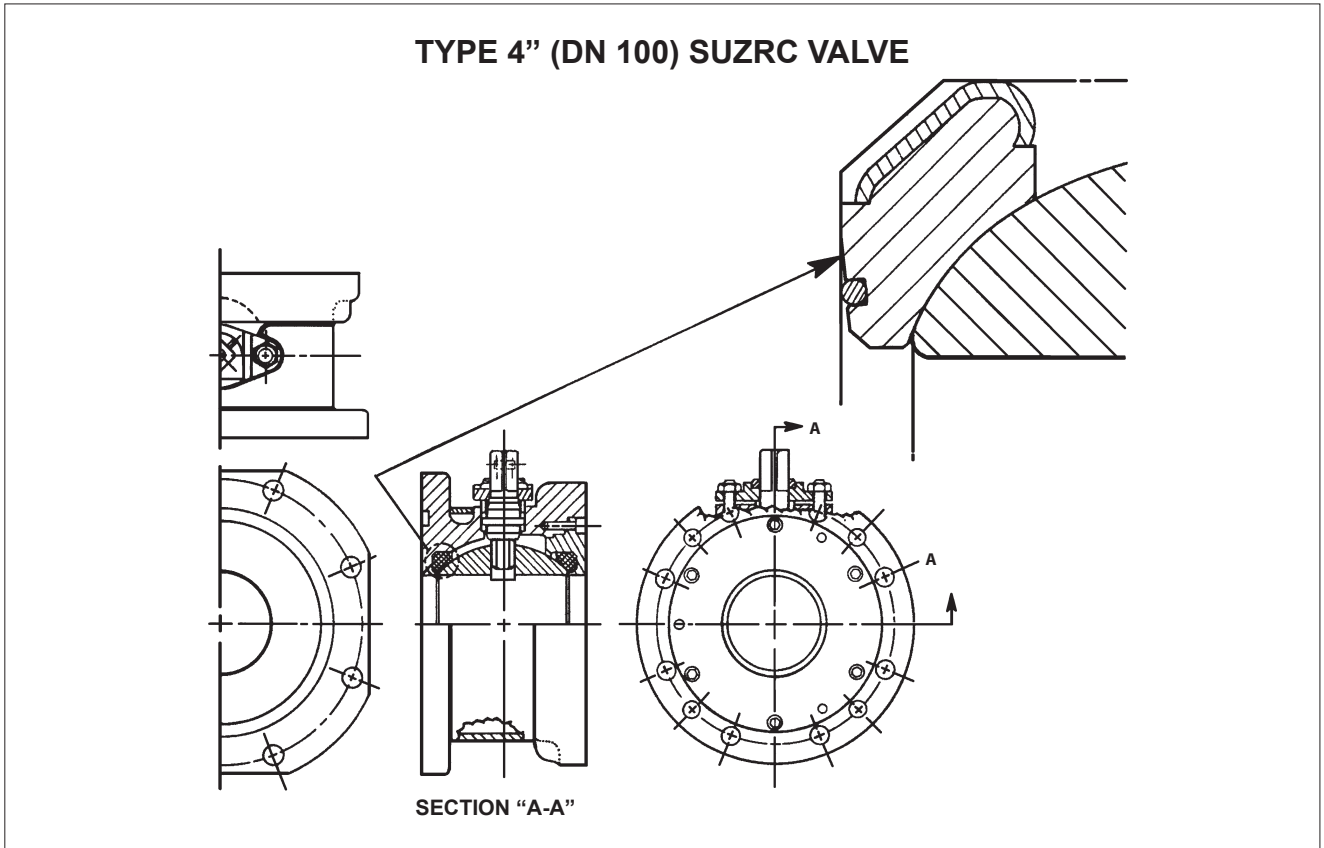
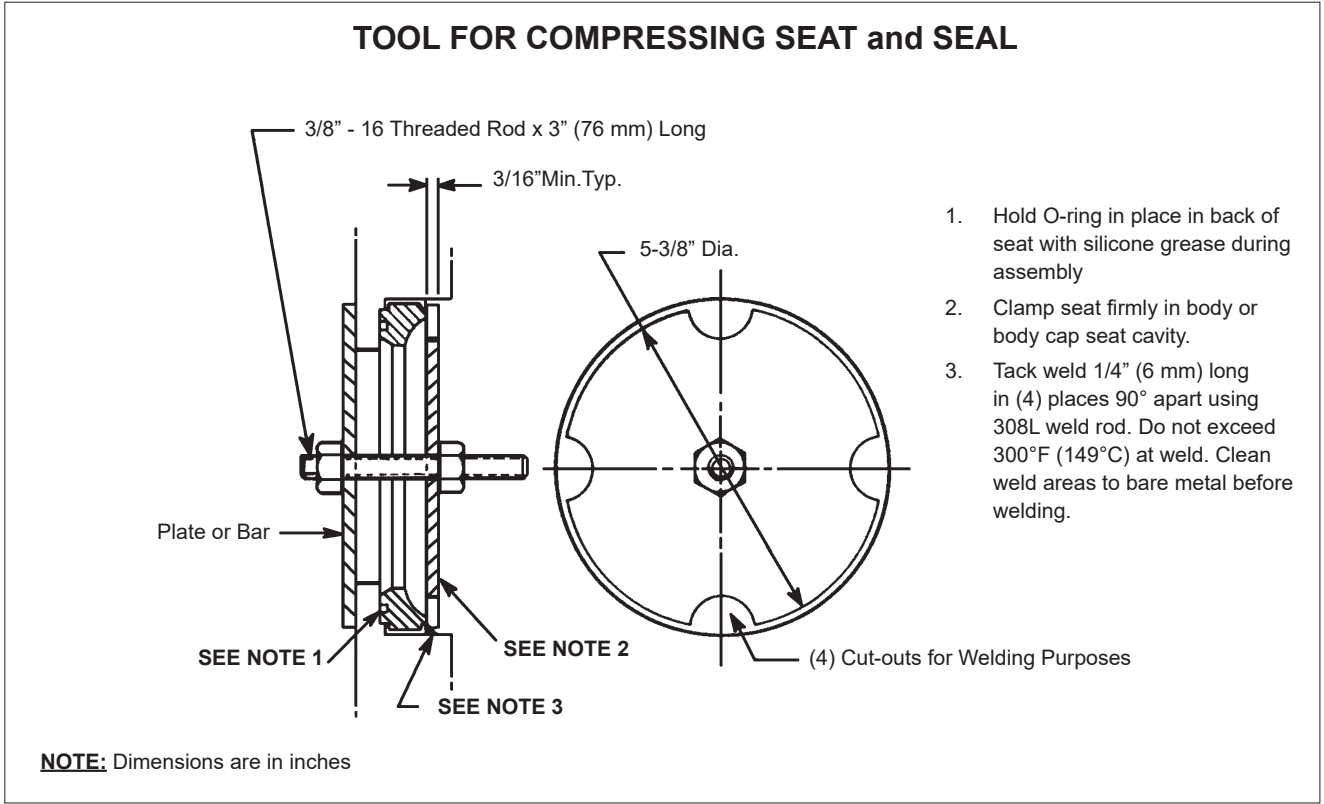
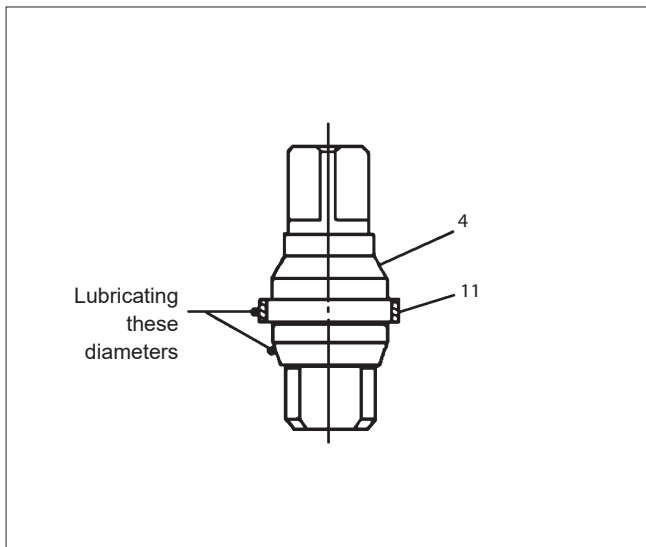
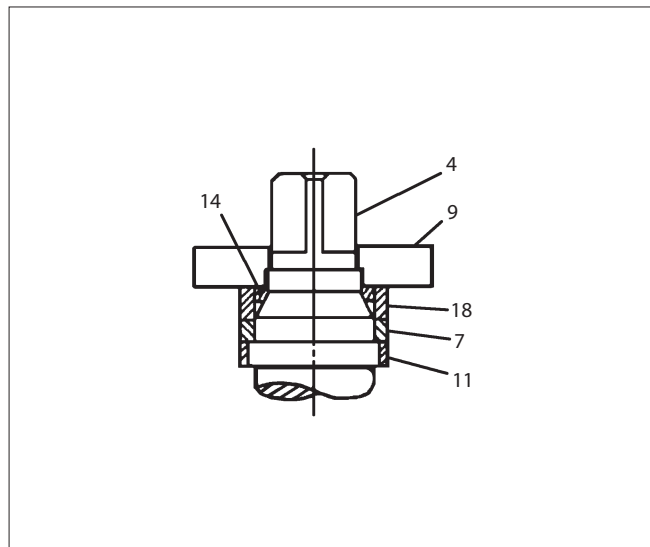

Figure 2.
Figure 3.
Figure 4.
Figure 5.
1. Slide the first valve seat (5) with O-ring (27) into the body (1) to below the stem opening and tilt it into place so that the bevel surface (**Figure 2**) will be adjacent to the ball (3). While clamped firmly and centered, tack weld seat to the body (**Figure 3**).
2. Place the ball (3) into the valve body (1) in the closed position. Insert the stem (4) as a temporary means of holding the ball.
3. Insert the second seat (5) with the O-ring (27) into the insert (2). While clamped firmly and centered, tack weld seat to insert (2) (**Figure 3**). Insert body seal (6) into the machined sealing area of the body with the chamfer on the I.D. facing away from the ball.
4. Adjust the jacking screws (26) so they do not protrude through the insert or above the insert face.
5. Fit the insert (2) into the valve body, aligning the mounting holes in the insert with threaded holes in the body.
6. Compress the insert into the body with the body insert cap screws (20) by tightening them evenly and alternately until the insert is bottomed and all cap screws are tight, (Torque: 24 - 34 ft.-lbs.).
7. Remove the stem (4) and insert a stem seal (7) with the chamfer on the I.D. facing down. Place the emergency seal (13) on top of the stem seal. Preassemble stem (4) and stem bearing (11) as per (**Figure 4**). Lubricate as noted with compatible lubricant. Insert the stem/stem bearing assembly into the stem hole. Exercise caution so that the stem bearing remains in place to support the outside diameter of the stem shoulder. **NOTE:** Two stem bearings are included in the kit. Install only one.
8. Slide the second stem seal (7) over the stem. The chamfer on the I.D. of this stem seal should also face down.
9. Place the compression ring (18) on the stem. Slide weather seal (14) down stem into compression ring (**Figure 5**).
10. Tighten the bonnet nuts (10) evenly until they contact the bonnet plate (9). Then tighten another 3/4 of a turn.
11. Place the indicator stop (12) over the stem, positioning it so that counterclockwise rotation will open the valve. Place the retaining ring (32) over the stem and into the groove on the stem.
13. Secure the handle (15) on the stem (4) so that the handle is parallel with the ball port. Secure the handle with the hex head screw (24) and washer (25).